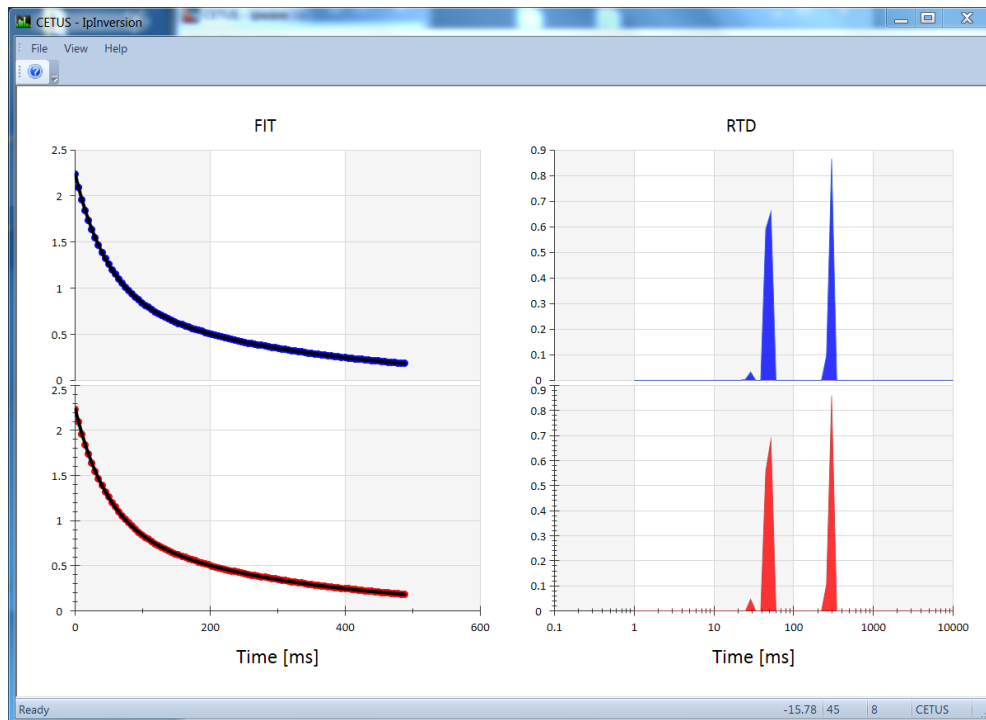

Figure 4-13 IP Inversion browser
9. The **"IP"** response can also be checked by connecting the injection (SPR), 16" and 64" electrodes for the **IP measurement configuration**. A **chargeability of 60 ms and 300 ms** should be read in the **IpInversion browser – Relaxation Time Distribution (RTD)** plot (Figure 4-13).